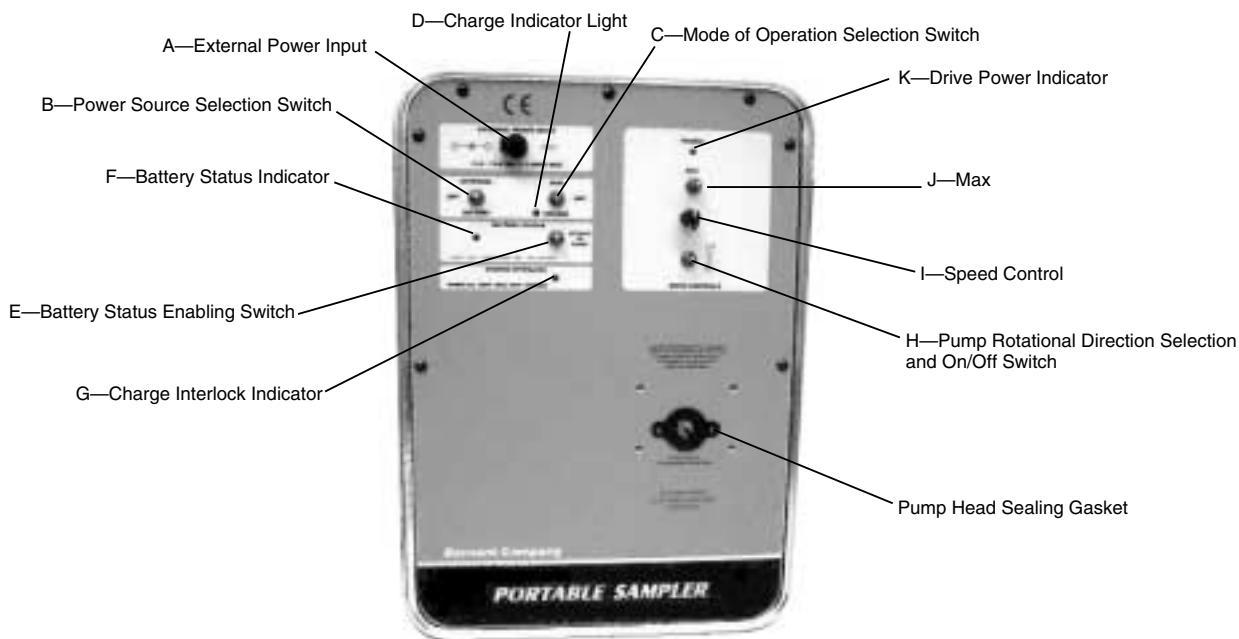

FIGURE 1 CONTROL PANEL
- A. **Connect the supplied AC/DC Power Supply/Converter to drive** by lifting **EXTERNAL POWER INPUT (A)** receptacle cover and inserting the 2.5 mm coaxial power jack into the receptacle. (See Figure 1.)
- A. Place the Power Source Selection Switch (B), (EXTERNAL/BATTERY) to the “BATTERY” position.
- B. Place the Mode of Operation Selection Switch (C), (RUN/CHARGE) to the “RUN” position.
- C. Select Pump Rotational Direction Selection On/Off Switch (H), CW or CCW. (See Figure 1.) (When changing directions, turn off the power first, which is the center or OFF position of the Rotational Direction Switch.)
- D. Adjust pump flow rate with the 1-turn Speed Control (I), by turning the knob CW to increase flow rate or CCW to decrease flow rate.
- E. To “Prime the Tubing”, toggle the “MAX” Switch (J), up or down to make the pump run at maximum speed.
- A. Place the Power Source Selection Switch (B), (EXTERNAL/BATTERY) to the “EXTERNAL” position.
- A. Connect the supplied AC/DC Power Supply/Converter to drive by lifting the EXTERNAL POWER INPUT (A), receptacle cover and inserting the 2.5 mm coaxial power jack into the receptacle. (See Figure 1.)
- B. Connect AC/DC Power Supply/Converter to an AC power source. Place the Power Source Selection Switch (B), (EXTERNAL/BATTERY) to the “EXTERNAL” position.
- C. Place the Mode of Operation Selection Switch (C) (CHARGE/RUN) to the “RUN” position.
- D. Select Pump Rotational Direction Selection On/Off Switch (H), CW or CCW. (See Figure 1.) (When changing directions, turn off the power first, which is the center or OFF position of the Rotational Direction Switch.)
- E. Adjust pump flow rate with the 1-turn Speed Control (I), by turning the knob CW to increase flow rate or CCW to decrease flow rate.
- F. To “Prime the Tubing”, toggle the “MAX” Switch (J), up or down and hold to make the pump run at maximum speed.
- A. **Connect the supplied AC/DC Power Supply/Converter** by lifting the **EXTERNAL POWER INPUT (A)**, receptacle cover and inserting the 2.5 mm coaxial power jack into the receptacle. (See Figure 1.)
- C. **Place the Mode of Operation Selection Switch (C) (CHARGE/RUN)** to the “CHARGE” position.